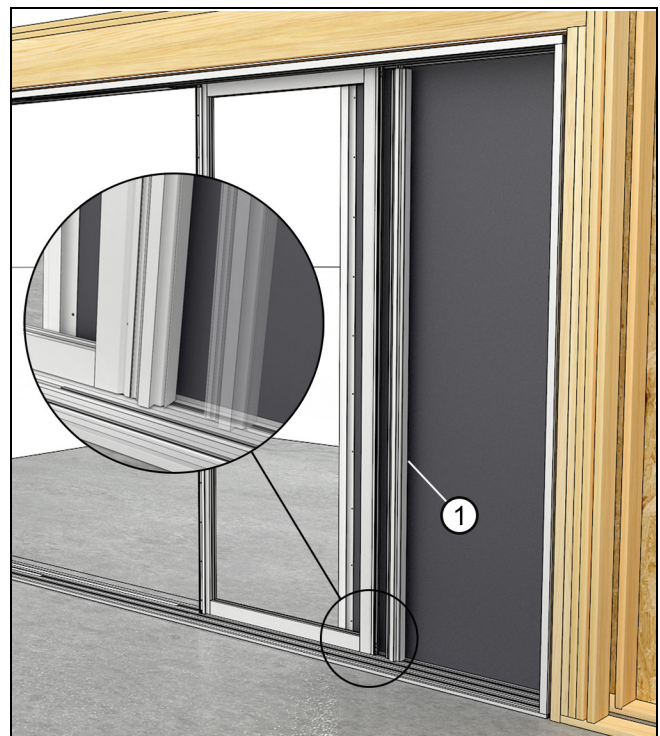
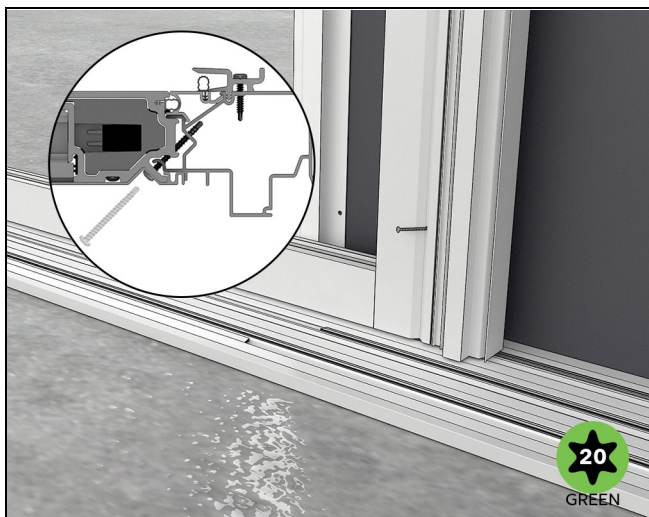

Figure 97
Figure 98
1. Attach pocket support block to the stile of the pocket panel. Fasten through the pre-drilled holes in the top and bottom with the #8 x 1 3/4" (44) self drilling screws. (Bag with the green dot). Make sure the support block is flush to the bottom of the panel. When the top and bottom are secure fasten through the rest of the holes. See Figure 97 and Figure 98.